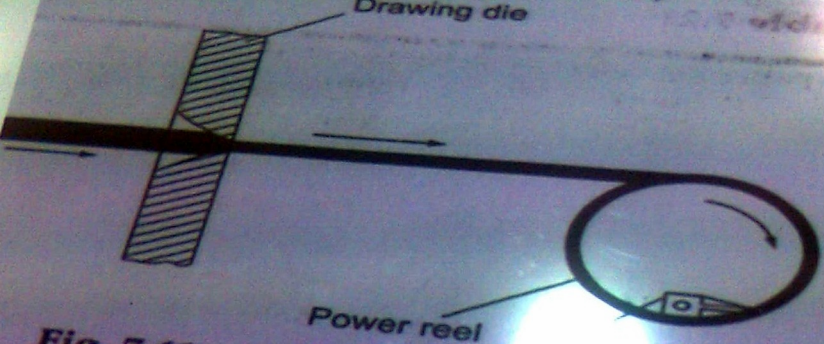

Fig. 7.61
- The wire drawing machine in Fig 7.61.
- This end is then gripped on the other side with a gripper, which would then pull the wire through the die. The wire thus drawn is then coiled round a power reel as shown in fig. 7.61.